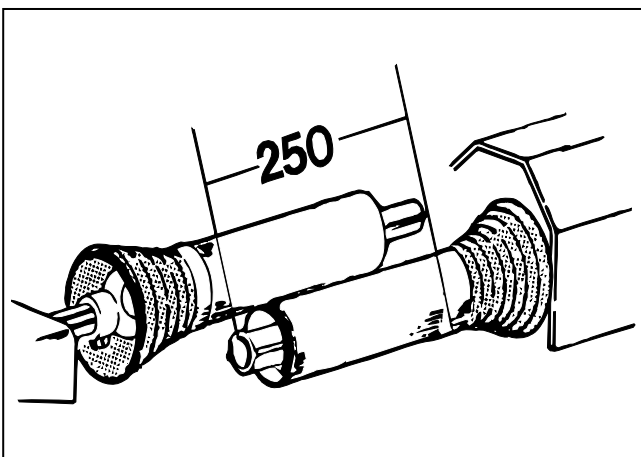

Fig. 4
**FIG. 4**        Mount the PTO-shaft on the PTO of the tractor and check that the shaft has a mesh of at least 200 mm in working position. Also check that it has freedom of movement in both raised and lowered position. **All 4 tubes must be shortened equally much.**